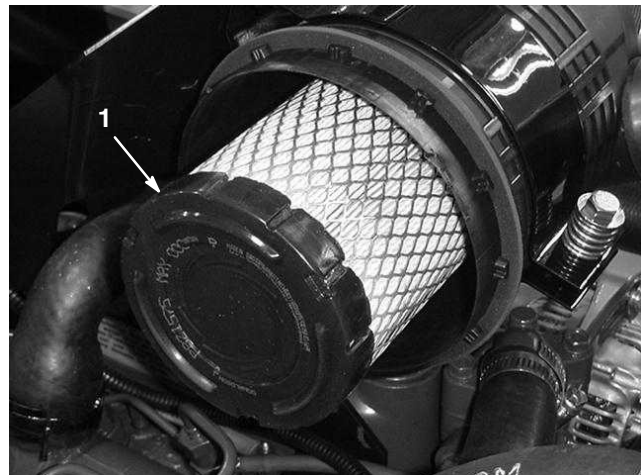

Figure 37
3. Remove and replace the primary filter (Fig. 37). Cleaning of the used element is not recommended due to the possibility of damage to the filter media. Inspect the new filter for shipping damage, checking the sealing end of the filter and the body. Do not use a damaged element. Insert the new filter by applying pressure to the outer rim of the element to seat it in the canister. Do not apply pressure to the flexible center of the filter.